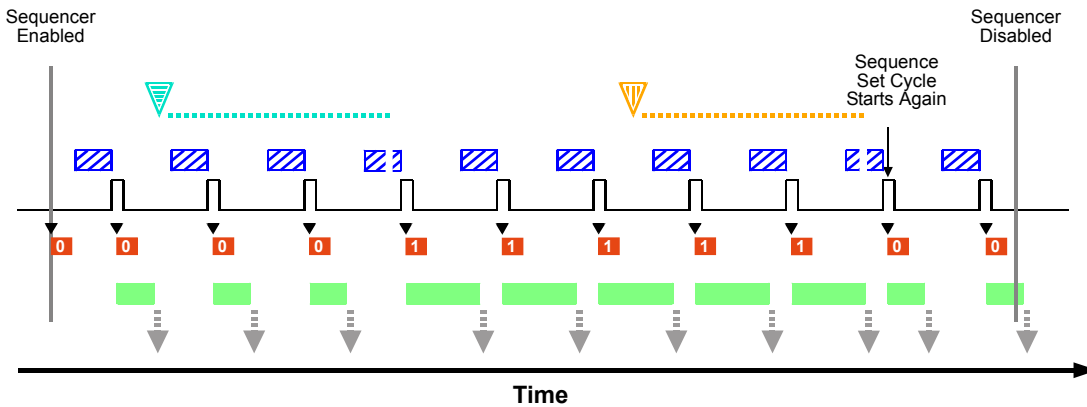

Fig. 56: Sequencer in Controlled Sequence Advance Mode with Disabled as the Sequence Control Source and Asynchronous Advance and Restart
The following use case (see also Figure 56) illustrates the operation of the sequencer in controlled sequence advance mode with Disabled selected as the sequence control source. Sequence set advance proceeds in ascending sequence set index numbers subject to asynchronous advance commands. After one sequence set cycle is complete, another one starts. Sequence set cycle restarts are subject to asynchronous restart commands.
- When the AsyncAdvance command becomes effective, the camera happens to be in the "waiting for frame start trigger" status. The parameter values of the next sequence set, i.e. of sequence set 1, are loaded into the active set. Note that the camera briefly exits the "waiting for frame start trigger" status while the parameter values of sequence set 1 are loaded into the active set (see also Figure 56).
- When the AsyncRestart command becomes effective, the camera happens to be in the "waiting for frame start trigger" status. The parameter values of sequence set 0 are loaded into the active set. Note that the camera briefly exits the "waiting for frame start trigger" status while the parameter values of sequence set 1 are loaded into the active set (see also Figure 56).